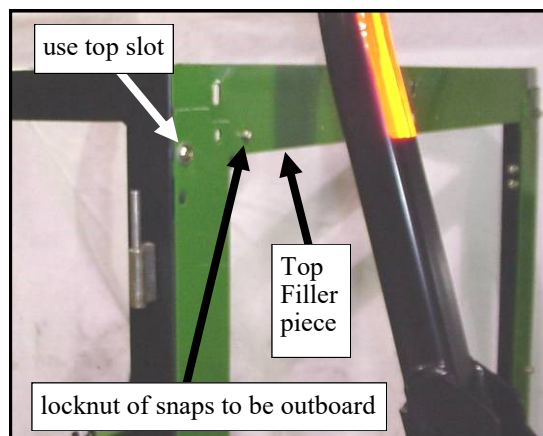

Fig. 5.1 View from left side of vehicle
5.1 Per fig. 5.1, install the top filler oriented so the long straight edge is up top. Fig. 5.1 shows a soft sided cab installation. The top filler should be sandwiched between the side frames and the rear legs. Use the following hardware: one 5/16-18 x 1" long button head bolt, one steel washer, and one plastic washer per side in the higher of the two slots as shown and into the factory installed threaded insert in the back of the side frame.
**13.2** For model 2320 only, install the 6 supplied snaps and locknuts to the top filler piece with the locknuts on the outside surface. Note: extra snaps are provided in case one gets lost. Ref.: see fig. 5.1 on page 6.